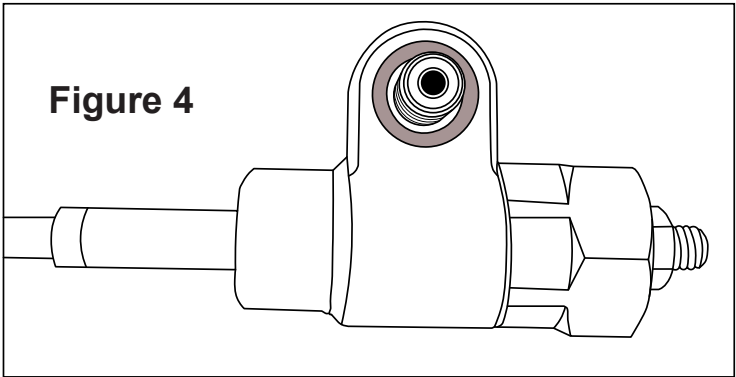

Figure 4
4. Make sure the o-ring seal is in place on the idle valve and not stuck to the pump. (Figure 4)
1. Apply a thin coating of white lithium grease onto the o-ring seals, install them into both sides of the idle valve, then insert the valve retainer bolt through the idle valve and o-ring seals. (Figure 4)